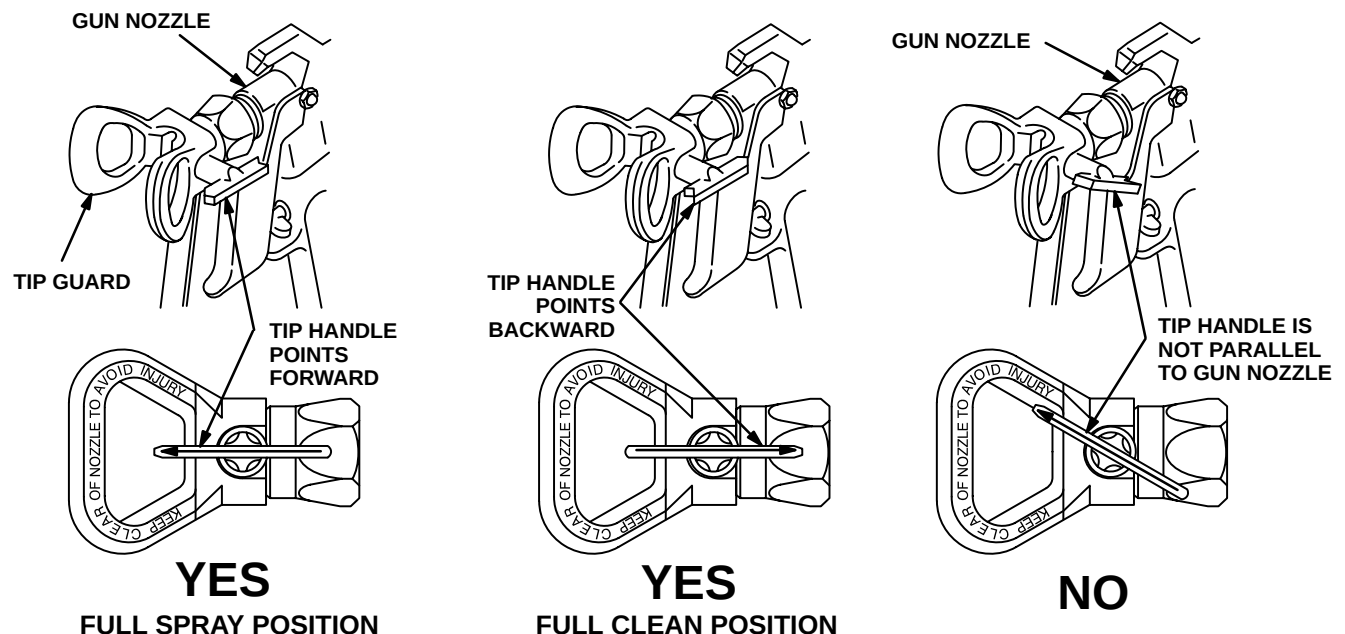

Fig. 1
- Turn the tip handle so it is **parallel** to the gun nozzle. See Fig. 1.
In the spraying position, the arrow on the tip cylinder handle faces forward. See **FULL SPRAY** position in Fig. 1.
If the spray tip clogs while spraying, engage the gun safety latch. Turn the arrow handle 180° to the **FULL CLEAN** position (arrow points **backward**, away from direction of spray). See Fig. 1. Disengage the safety latch and trigger the gun into a waste container. Fluid pressure should force out the clog. Engage the safety latch and return the arrow handle to the **FULL SPRAY** position (arrow points **forward**, toward direction of spray). If still clogged, follow the **Pressure Relief Procedure Warning** on the front of this sheet and remove the tip cylinder for cleaning.